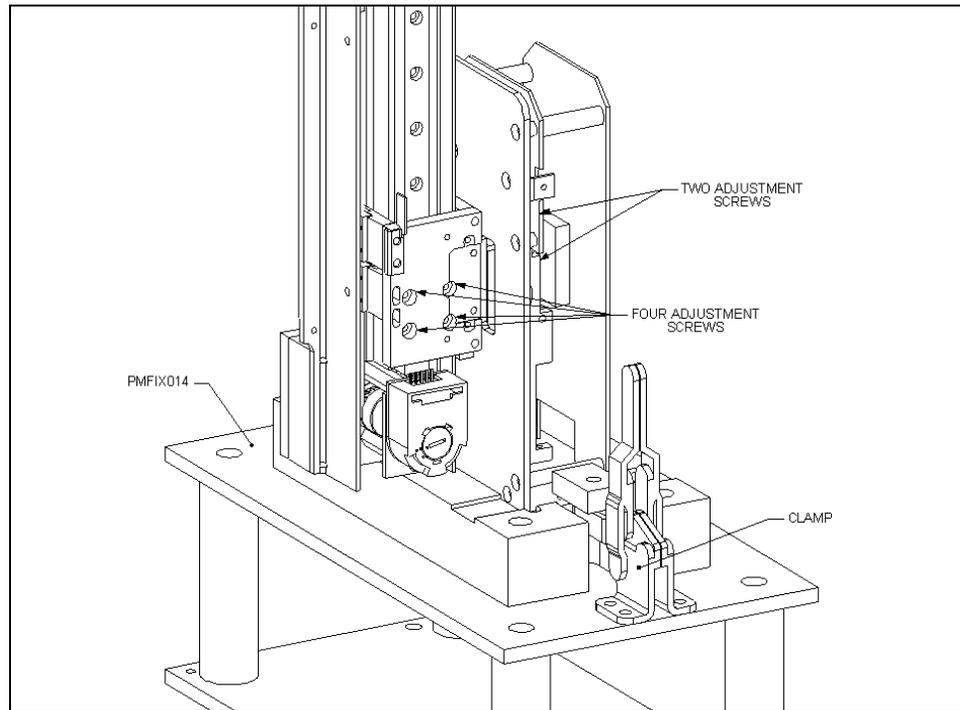

Figure 7-12 Mounting the Pipette on the Jig
- 9 When replacing the pipette assembly, it will be necessary to align the pipette to the base plate using the Pipette alignment jig (jig number PMFIX014, or jig number PMFIX017A for field replacement). The base plate should be mounted on the jig as shown in Figure 7-12. The pipette alignment jig should be positioned on the base plate in the reagent rack location.